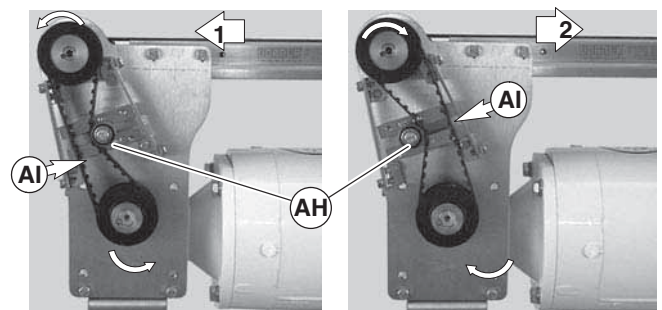

Figure 44
- Depending on conveyor belt travel (1 or 2 of Figure 44), locate timing belt tensioner (AH), as shown. Tension timing belt to obtain 1/8" (3 mm) deflection for 1 lb (4.3 N) of force at timing belt mid-point (AI). Tighten tensioner to 38 ft-lb (51 Nm)